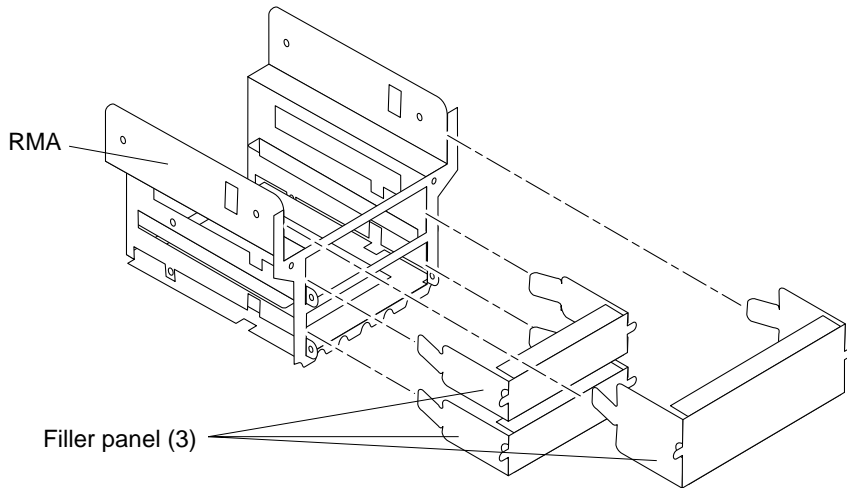

FIGURE 8-7 Removing and Replacing the RMA EMI Filler Panel
4. Use your fingers to pop the drive tray EMI filler panel from the drive tray (FIGURE 8-7).
1. **Position and snap the EMI filler panel into the RMA** (FIGURE 8-7).